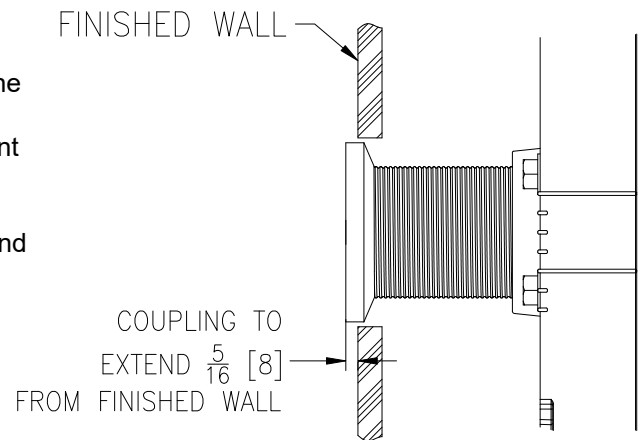

Fig. 12a
Adjust the coupling to extend 5/16" [8mm] from the finished wall. Ensure the coupling threads are protected from debris adhesion to allow adjustment after the wall is in place. If the coupling must be shortened, cut from the threaded end and prevent damage to the o-ring by chamfering the cut end and thoroughly deburring. See Fig. 12a
- b. EZ-Set™ Coupling (Z) - Thread the coupling into the faceplate by hand until it engages the o-ring and begins to resist. Using a strap or pipe wrench, continue to turn the coupling into the o-ring to create a water-tight seal. Ensure the protective sleeve is flush with the test cap. See Fig. 12a & 12b